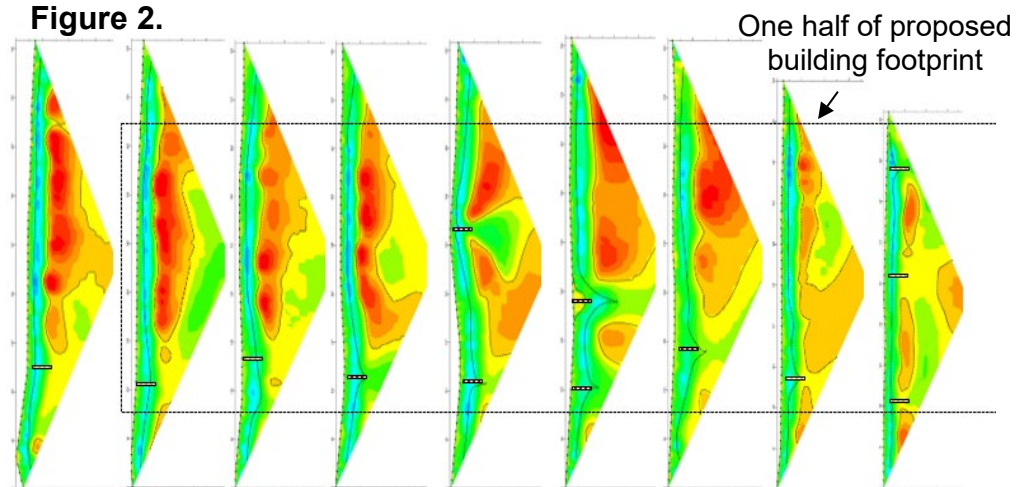
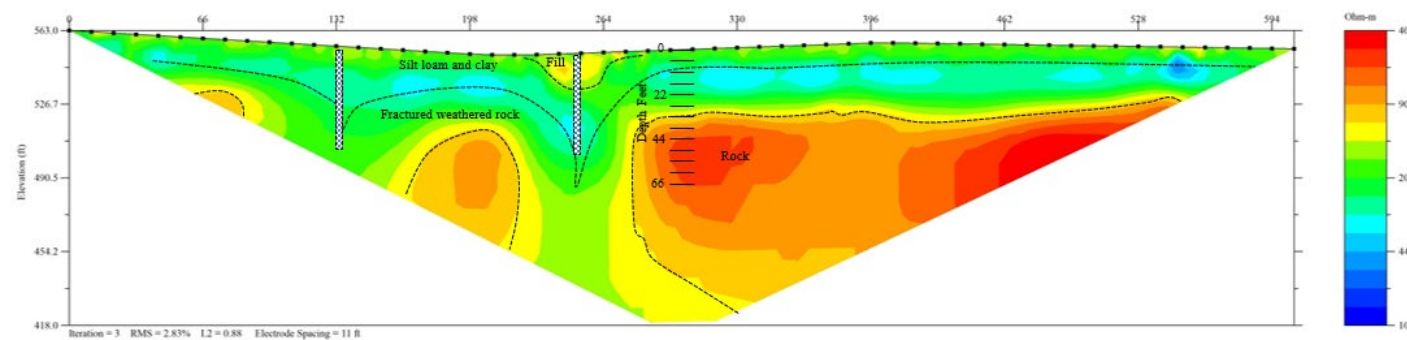

Figure 1. Map showing the results of the electrical resistivity survey across half of the building footprint
Figure 2. Example of an annotated 2-dimensional electrical resistivity cross-section.
**Project:** The Bowling Green, KY Chamber of Commerce was interested in characterizing an investment lot within the Kentucky Transpark developed by the Inter-modal Transportation Authority located northeast of Bowling Green in Warren County, Kentucky - an area known for its karst. In order to safely plan for a proposed building at the site, the chamber solicited an electrical resistivity (ER) survey to characterize the lot. NSG conducted 18 parallel lines (Figure 1 represents one half of the proposed building) and constructed a recommended boring location map based on the potential karst features identified across the site (Figure 3). An example of an annotated electrical resistivity cross-section for such a survey is shown in Figure 2.
**Survey Results:** Interpretations like those seen in Figure 2 contribute to the overall findings of an ER investigation. Dashed lines are added to the cross sections where study of the data suggests changes in lithology (Figure 2). Warm colors (red to orange) generally are indicative of resistive, dry limestone whereas green indicates weathered rock and blue indicates saturated clayey soils. Furthermore, in this environment, conductive features at depth generally indicate solution-enlarged cavities. In this example, numerous features indicating bedrock dissolution and karst features can be seen in the ER data.